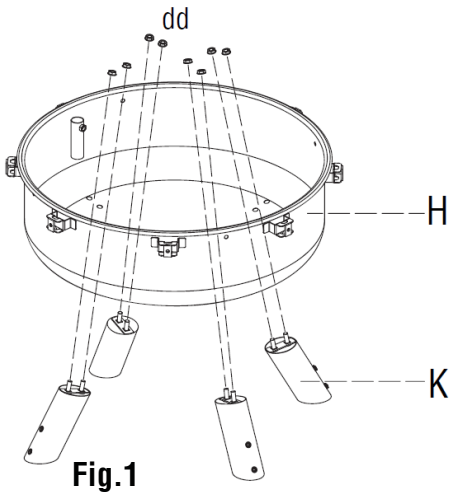

Fig.1
Attach 4pcs Leg(K) to the Fire bowl(H) with 8pcs M8 nut(dd). Tighten the nut and DO NOT cross threaded. See Fig.1